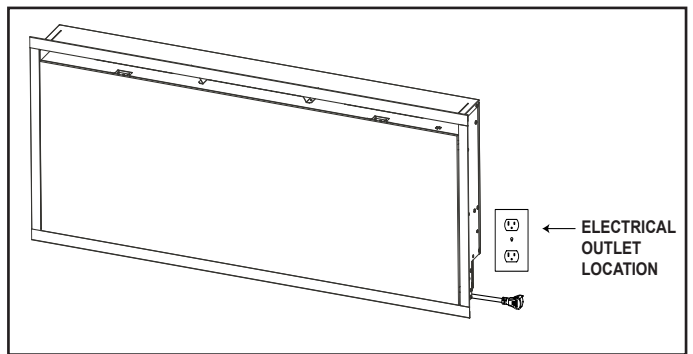

Figure 3.3 Electrical Outlet Location
4. Replace cord kit terminal block cover plate and retaining screws. Plug cord into nearest outlet. See Figure 3.3.